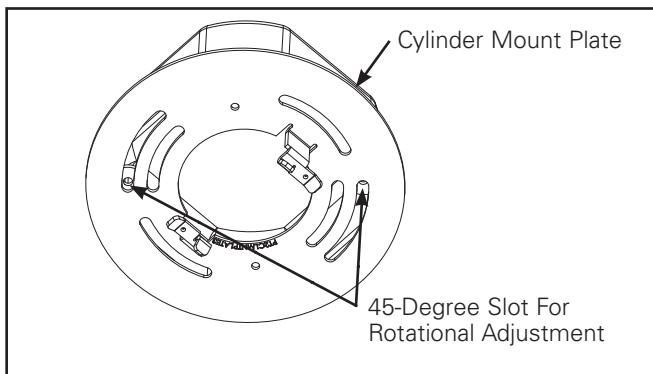

Figure 1.
1. Install cylinder mount plate to junction box (see figure 1).